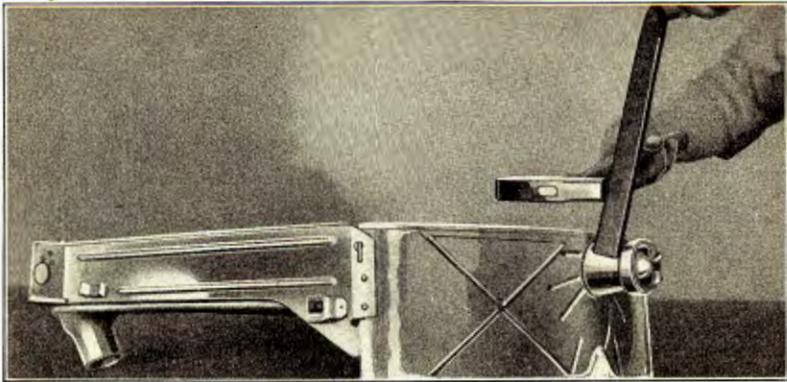

Fig. 425
- 864** It is possible to remove small dents from the radiator top and bottom tanks without disassembling the radiator. If the filler has been driven into the tank it can be pulled out by screwing the cap into the filler and placing a small iron bar under the top shoulder of filler flange and driving filler up into position with a hammer (See Fig. 425). If there is a small dent in the tank, solder the dent puller into the center of the dent as shown in Fig. 415, and draw it out.